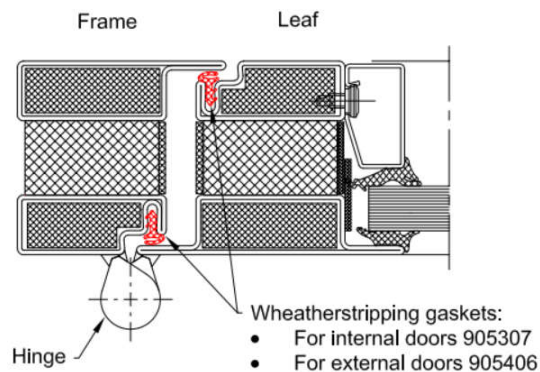

Figure 5 Installation of weatherstripping gaskets
11. During installation, make sure that the weatherstripping gasket is installed in the right direction (Figure 5).